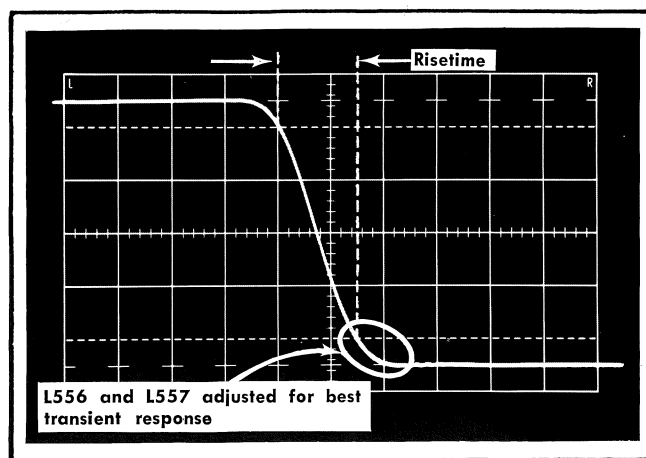

Fig. 5-36. Comp Sync waveform adjusted for proper transient response.
b. Set the Type 1A5 Volts/Cm switch to  $.5\text{V}$  and rotate the Position and Variable (Volts/Cm) controls for a display amplitude of 5 cm as indicated on the test oscilloscope and shown in Fig. 5-36.
c. CHECK—Test oscilloscope display; risetime must be 260 ns within 15% and transient response must be similar to that shown in Fig. 5-36.